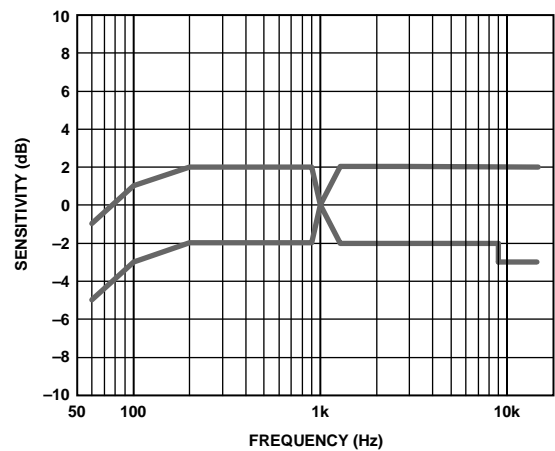
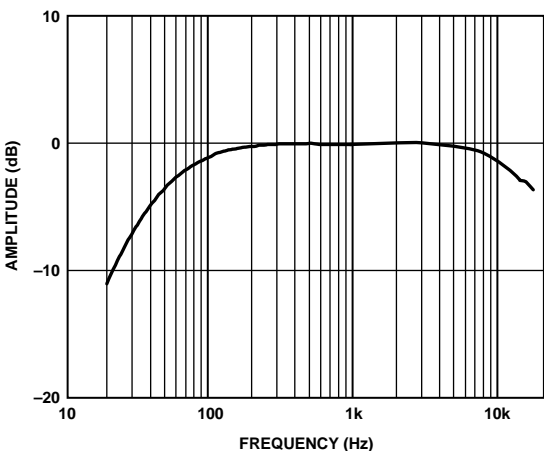

Figure 4. Frequency Response Mask
Figure 5. Typical Frequency Response (Measured)
**Note 2:** See Figure 4 and Figure 5.
The sensitivity of a PDM output microphone is specified in units of dBFS (decibels relative to a full-scale digital output). A 0 dBFS sine wave is defined as a signal whose peak just touches the full-scale code of the digital word (see Figure 5). This measurement convention means that signals with a different crest factor may have an RMS level higher than 0dBFS. For example, a full-scale square wave has an RMS level of 3dBFS.